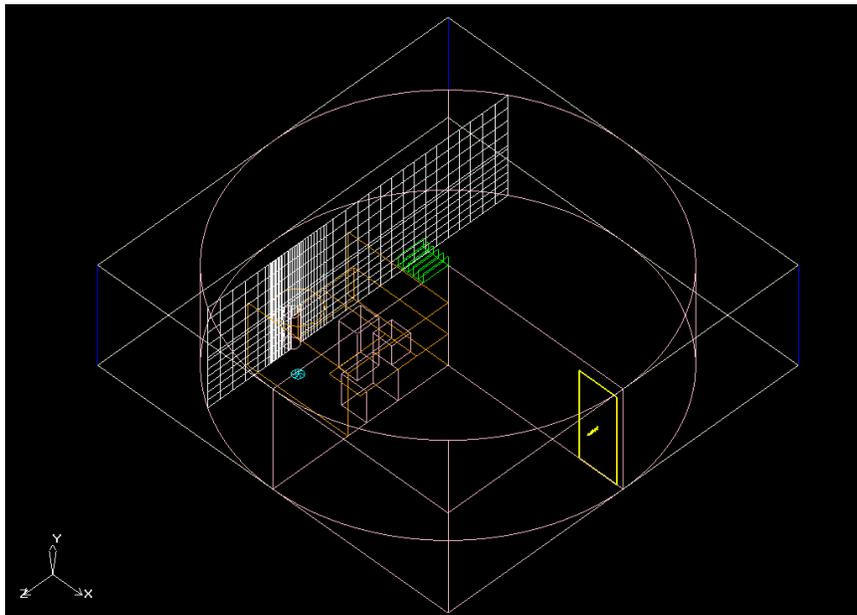

Figure 4.20: Mesh on a  $y$ - $z$  Plane
*The mesh display plane is perpendicular to the ceiling, as shown in Figure 4.20.*